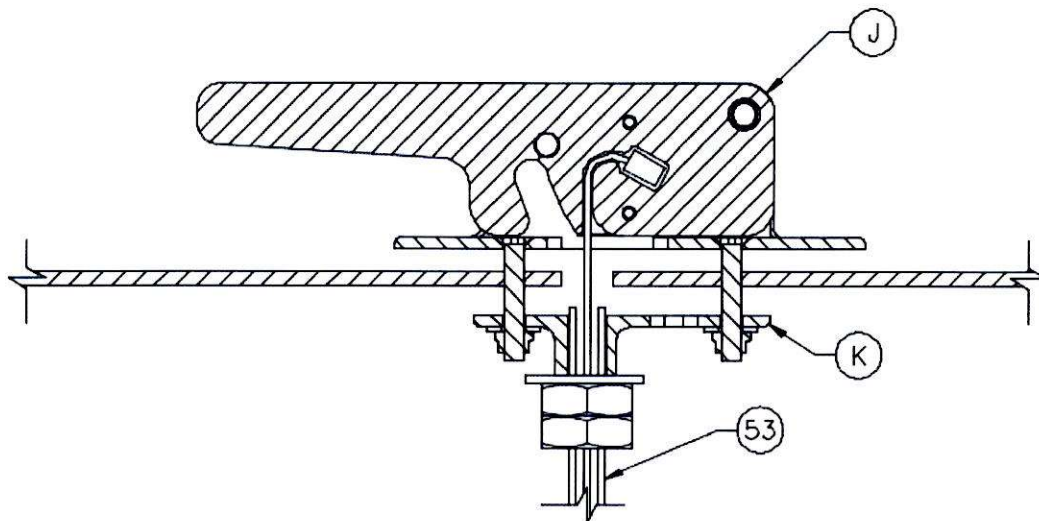

FIGURE 2: 624.9103 (F/N 24) SINGLE LEVER ASSY LOCATION
1. Remove the Threaded Base (F/N K) from the Single Lever Assy (F/N 24) and retain hardware for reuse (Figure 2).
6. Thread the Pull Cable (F/N 53) into the Threaded Base (F/N K) until it is flush with the face (Figure 2).